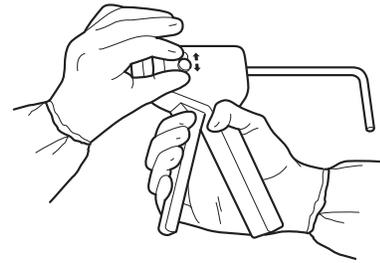

Figure 2
2. Push the speed selector back and then either up or down to select the desired speed (Figure 2). See *Cement Delivery Settings*.